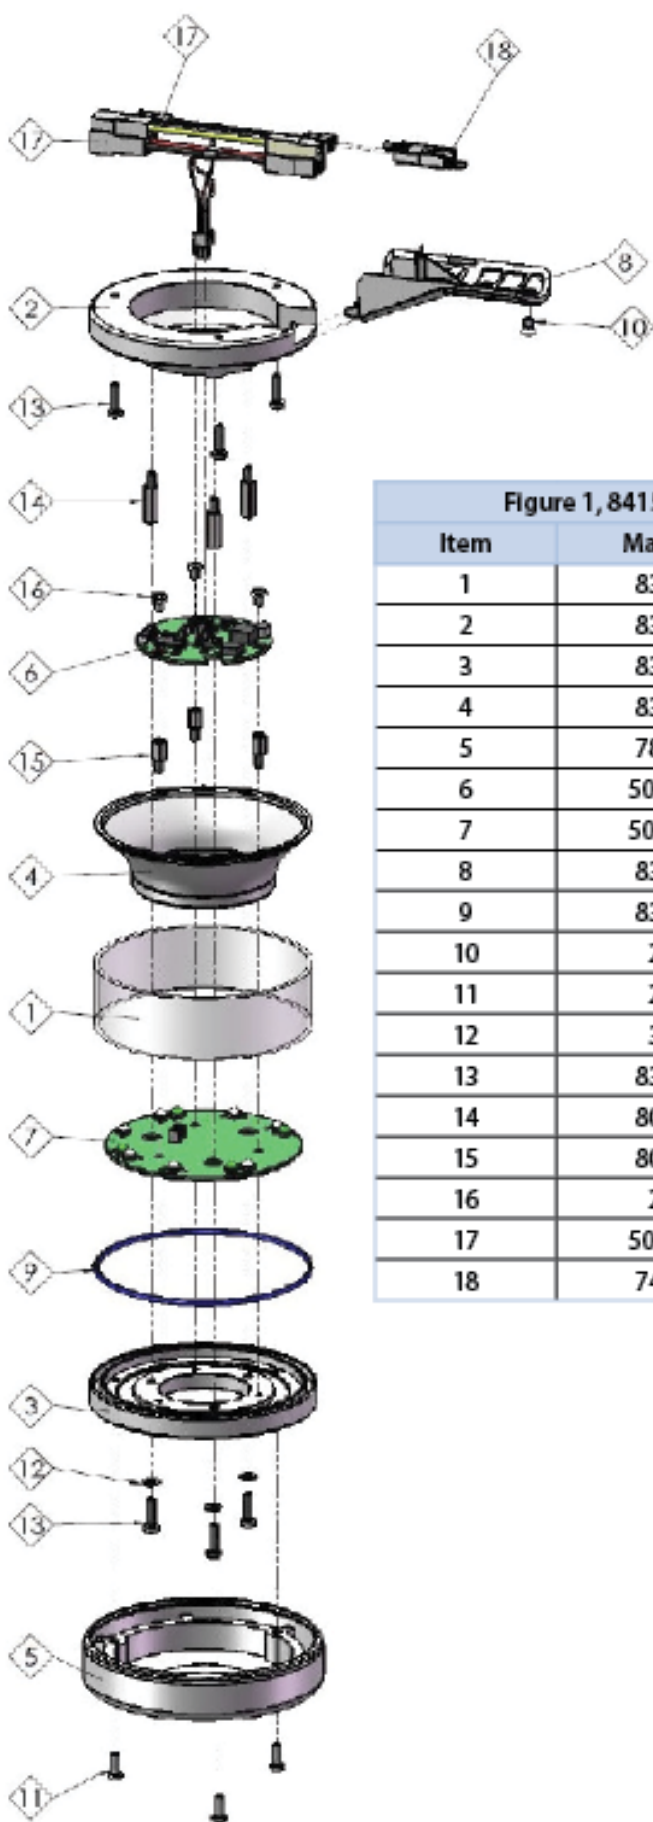

Figure 1, 84156 – EndoLite Powered Arm (light on bottom)
There are two (2) variants of the suspension mounted Chromophare ENDO light. The first is for suspensions with a surgical light mounted on the bottom arm of the suspension. With this unit, the power and CAN bus are received from the output of the contact block mounted on the bottom arm of the suspension thru a transition cover (Figure 1).
7. To remove Driver PCB circuit board, piece 6, remove three (3) screws and pull up gently to unseat the 8 pin socket connected to the LED circuit board, remove and place aside Driver board. To remove the LED Circuit board, Piece 7, remove the 3, 10mm standoffs.
9. Reassemble assembly taking care to ensure the window and the gasket are correctly in place, seen in Figures 1 and 2.